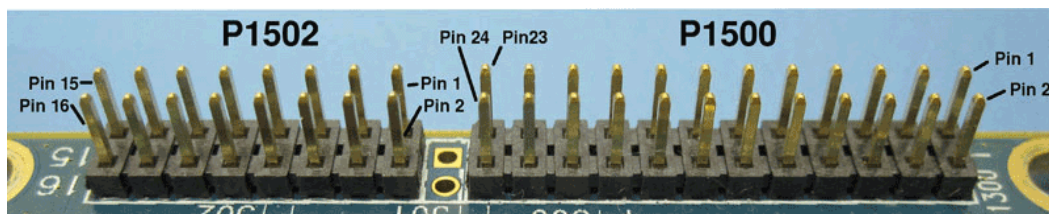

Figure 30: Top-view, P1500 Main Connector 24-Pin Header
- d. CAN Bus behavior must be asserted through the NovAtel API software. See *Section 2.5.3, CAN Bus* on page 43 for further details. See also *Figure 30* on page 105